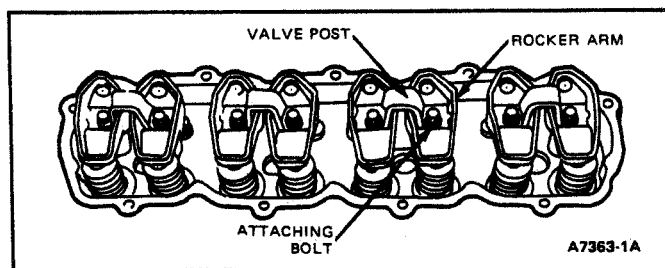

FIG. 46 Valve Rocker Arm Assembly
12. Remove valve rocker arm post mounting bolts (Fig. 46).